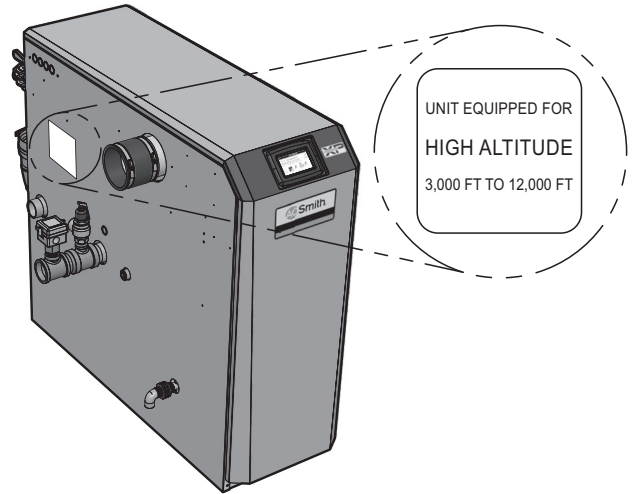

Figure 1. High Altitude Label Location
- High altitude XP water heaters are equipped to operate from 3,000 to 12,000 feet only. The water heater will de-rate by 2% for each 1,000 feet above sea level. High altitude models are manufactured with a different control module for altitude operation, but the operation given in this manual remains the same as the standard models. A high altitude label (as shown in Figure 1) is also affixed to the unit.